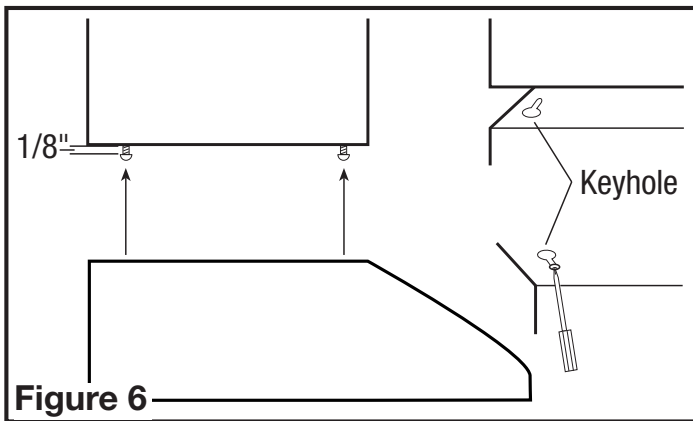

Figure 6
5. Install the 4 mounting screw at the previously marked locations. Leave approximately 1/8" clearance. Slide the hood in place through the keyhole slots and align the front of the hood so that it is flush with the front of the cabinets. Tighten all screws securely (Figure 6).